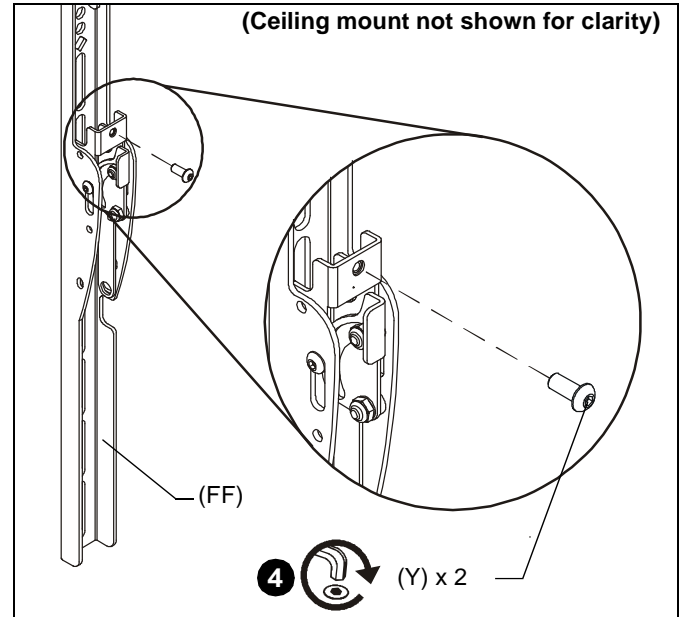

Figure 9
4. Fasten bracket against ceiling mount extrusion using one 10-24 x 5/8" button head cap screw (Y). (See Figure 9)